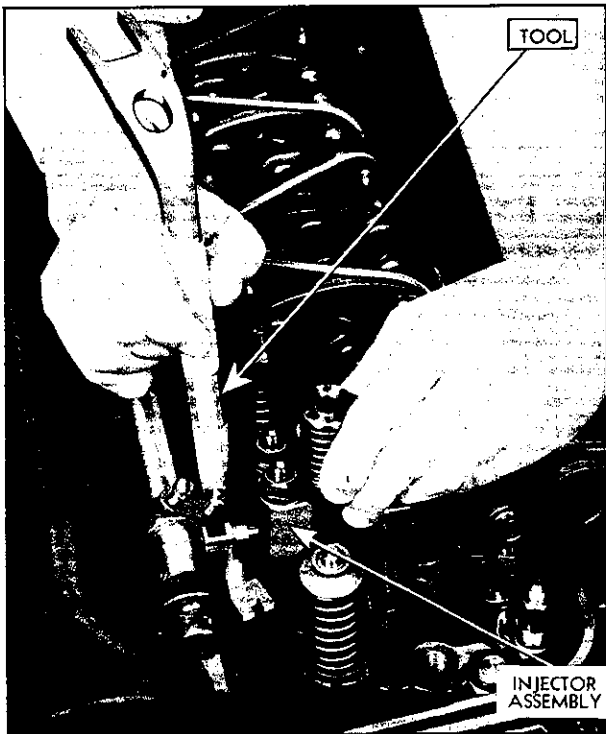

Fig. 8—Removing Injector with Tool as Shown.
6. Using Tool J-1227-1, as illustrated in Fig. 8, pry injector from its seat.